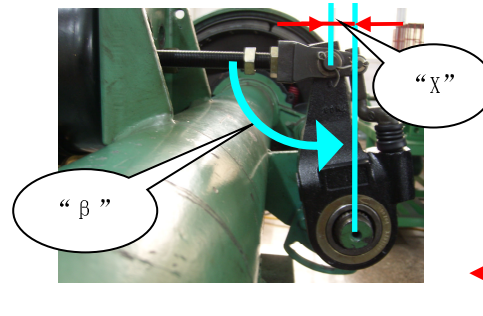

Fig 3
3. Rotate the yoke adapter to the yoke with spanner (Fig 3). Now, refer to Fig 3 parameter to confirm the "X" distance between the center of the camshaft spline and the center of the yoke pin, the angle "β" between arm length and push rod are in the proper position; Also the push rod thread should be not excess yoke adapter 3.2mm (1/8") ,or yoke adapter at least rotate to push rod 12.7mm (1/2") . If exceed the above require, the auto slack adjuster needs to be re-installed.